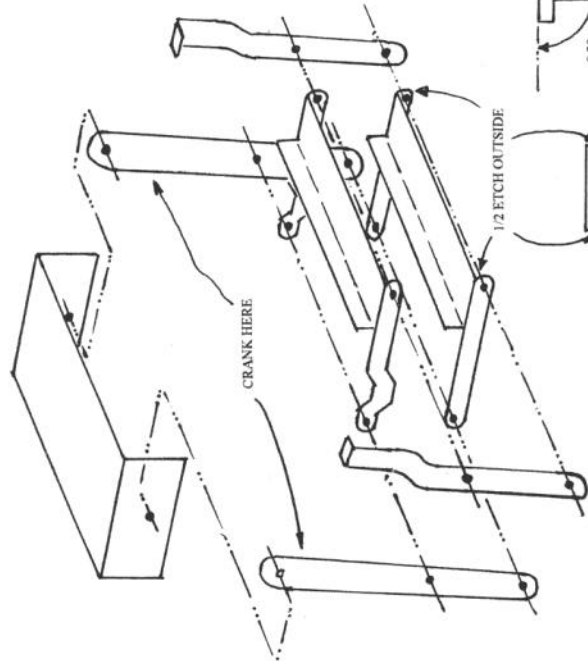

Fig. 3. PASSENGER STEPS.
- Fold the mounting bracket(2) ends at the half etch line to 90°.
- Using one of the lengths of 0.5mm. wire fix the rear support arms to the mounting bracket at an angle of 85° to the horizontal as shown in Fig.3. The templates on the front of these instructions are drawn at 85° (glue the templates to stiff card, a piece of old greeting card is suitable).
- Bend up the steps (4) as shown in Fig. 3. with **the half etch of the side arms on the outside**. The 'toe stop' flange is folded with the half etch on the inside.
- Bend the tabs on the front supports (4), two are left handed and two are right handed. (See Fig.3)
- The centre steps (with the cranked side arms) should have one of the wire lengths fixed, through the holes in the side arms, under the step tread, after fixing cut away the wire between the side arms leaving the full amount on the outside (Fig.3.).
- Assemble the steps as shown in Fig.3., using the remaining three pieces 0.5mm. wire per set. Do not fix at this time.
(Note: It may be necessary to crank the rear support arms very slightly, where they join the support bracket to ensure they sit parallel at the correct distance apart. See Fig.3)